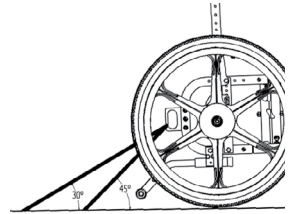

Figure 11
2. The pelvic belt **should be** worn low across the front of the pelvis, so that the angle of the pelvic belt is within the preferred zone of 45 to 75 degrees to horizontal or the optional zone of 30 to 45 degrees to the horizontal (see figure 11).